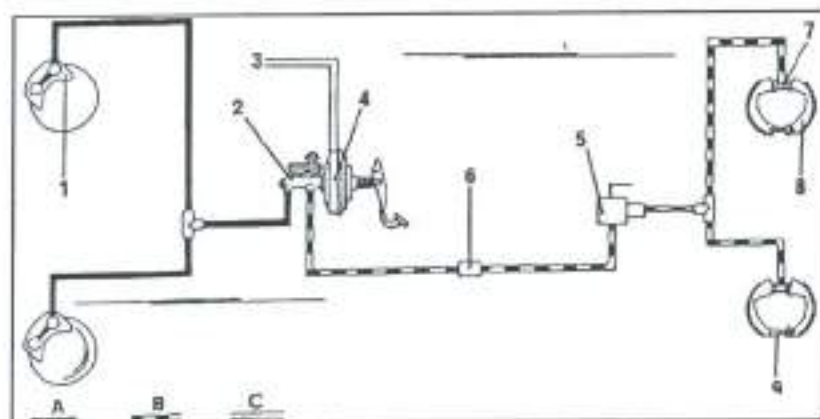
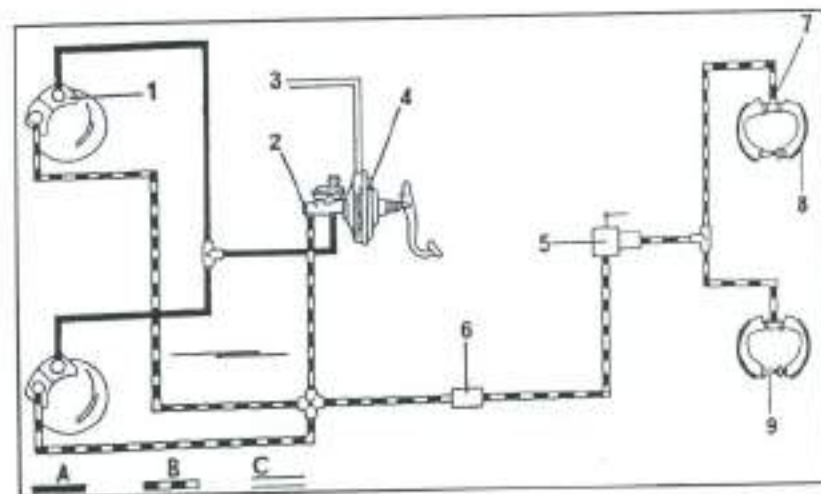

Fig. 7.1 – Brake circuit for delivery vans and pick-ups.
Fig. 7.2 – Brake circuit for models with passenger transport.
All models covered in this manual are fitted with a hydraulic dual-circuit brake with vacuum-operated brake servo unit. Fixed brake calipers with 4 pistons are used for the front wheels, with drum brakes at the rear wheels. There are, however, differences in the layout of the brake system. If the system is fitted to vans and pick-ups, the brake system is laid-out as shown in Fig. 7.1. If the vehicle is used for the transport of persons, the brake circuit is arranged as shown in Fig. 7.2. As the circuit shown in Fig. 7.2 can also be fitted to other models, we will give you the major differences:
- In the circuit arrangement shown in Fig. 7.1, the intermediate piston circuit acts on the front wheels, the push rod circuit on the rear wheels. The four cylinders of each front caliper are interconnected, if the front brakes fail, the rear brakes will operate as normal, but more brake force will be required. The same applies when the rear brakes fail, i.e. the front wheels will work in the normal manner.
- In the circuit arrangement shown in Fig. 7.2, each push rod circuit acts on two cylinders of the front wheel calipers. The intermediate piston circuit acts on the two remaining cylinders of the front calipers and on the rear wheel cylinders.